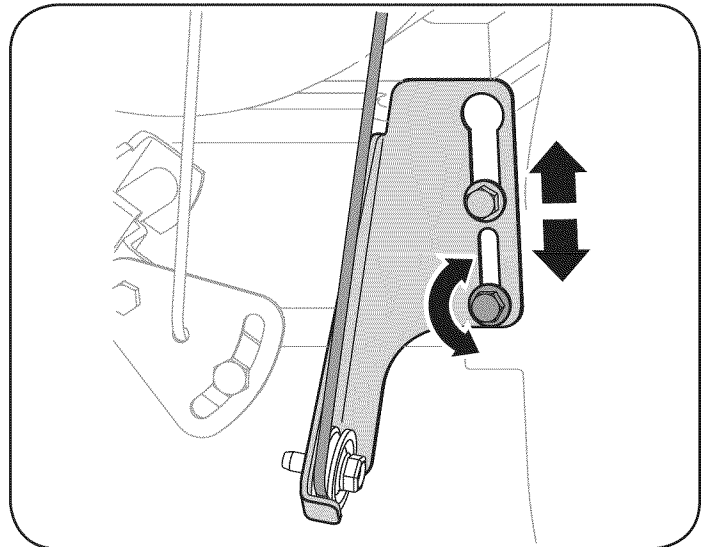

Figure 20
6. Loosen the lower hex bolt on the drive cable bracket. See Figure 20.